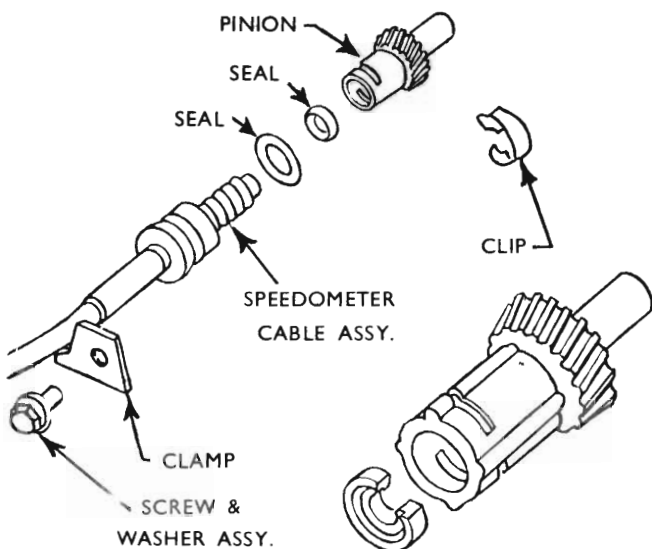

Fig. 15 - Speedometer drive pinion assembly—disassembled view
(1) The speedometer drive pinion assembly is retained in the extension housing with a clamp and screw (refer Fig. 15).
(2) Install the seal with the lips of the seal away from the pinion.
(3) Install the pinion on the cable and secure with clip in pinion while holding firmly together.
(4) Lightly lubricate the seal with multi-purpose grease and carefully install the cable assembly in housing.
(5) Install retainer clamp and screw, tighten to 150 lbs. in.
(1) Drain approximately 2 quarts of fluid from the transmission by removing drain plug from pan.
(2) Disconnect propeller shaft at rear universal joint. Carefully pull shaft assembly out of the extension housing.
(3) Remove speedometer pinion assembly (Fig. 15).
(4) Remove bolts securing extension housing to the crossmember insulator. Raise transmission slightly with service jack then remove centre crossmember and support assembly.
(5) Remove extension housing to transmission bolts.